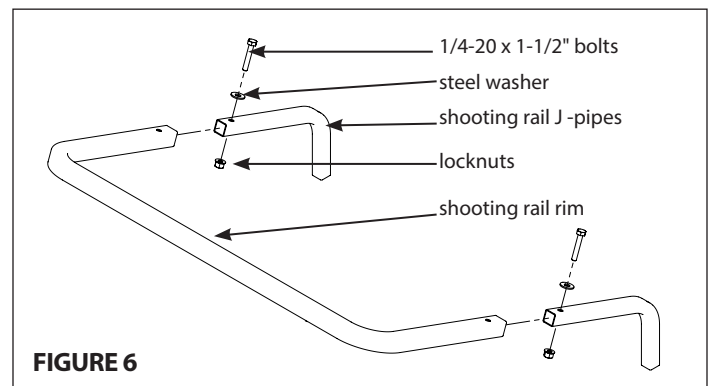

**FIGURE 3**
- 4 a. Attach the 2-hole (slot) end of upper ladder support tubes (10336) to the bottom side of main side rails using (4) provided 1/4-20 x 2-1/4" bolts and locknuts. **SEE FIGURE 3.**
b. Attach the 1-hole (slot) end of upper ladder support tubes to the backside of flared rails using (2) provided 1/4-20 x 2-1/4" bolts, washers and locknuts. **SEE FIGURE 3.**
- c. Attach the foot platform to the upper ladder support tubes using (2) provided 1/4-20 x 2" bolts, locknuts and steel washers. **SEE FIGURE 3.**